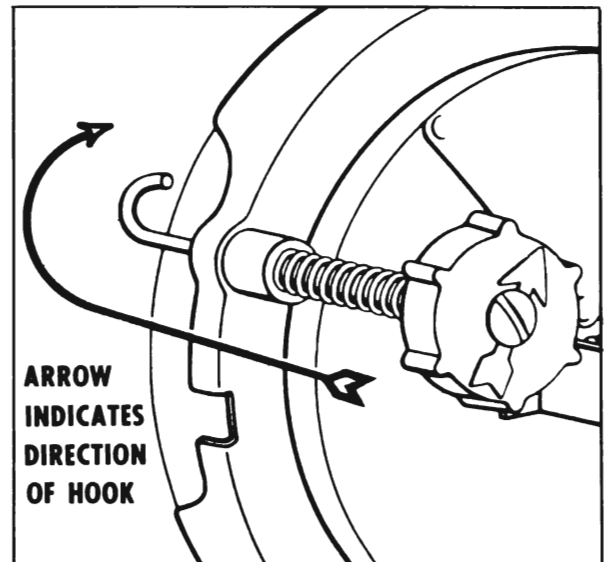

Figure 10-65—Fastening Aimer to Retainer Ring
4. Fasten aimer to retaining ring with spring-loaded hooks. The cross arm should be approximately horizontal. See Figure 10-65.